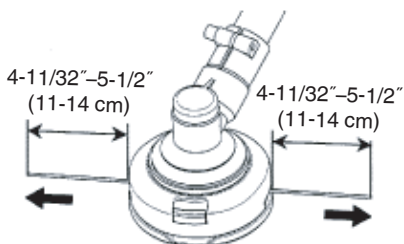

Fig. 31
- (7) The initial cutting line length should be approx. 4-11/32"-5-1/2" (11-14 cm) and should be equal on both sides. (Fig. 31)